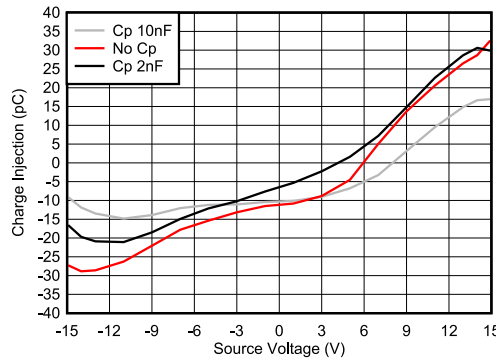

Figure 8-2. Charge Injection Compensation
The TMUX720x contains specialized architecture to reduce charge injection on the Drain (D). To further reduce charge injection in a sensitive application, a compensation capacitor (C_p) can be added on the Source (S_x). This will ensure that excess charge from the switch transition will be pushed into the compensation capacitor on the Source (S_x) instead of the Drain (D). As a general rule of thumb, C_p should be 20x larger than the equivalent load capacitance on the Drain (D). Figure 8-2 shows charge injection variation with different compensation capacitors on the Source side. This plot was captured on the TMUX7219 as part of the TMUX720x family with a 100pF load capacitance.